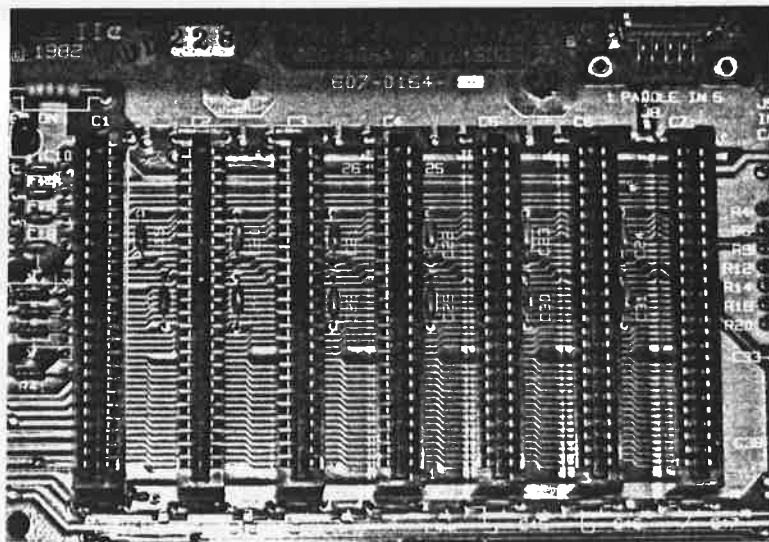

Figure 2.2 Apple IIe
----1. Be sure that the computer is turned off. Clear the top of the computer and remove the cover by lifting the back corners until the fasteners pop apart. Now slide the cover to the back. Notice the numbers above the slots. In the Apple II+, the numbers are from 0 to 7. In the Apple IIe, the numbers are from 1 to 7. A picture of the slots in the Apple IIe is shown below in Figure 2.2.